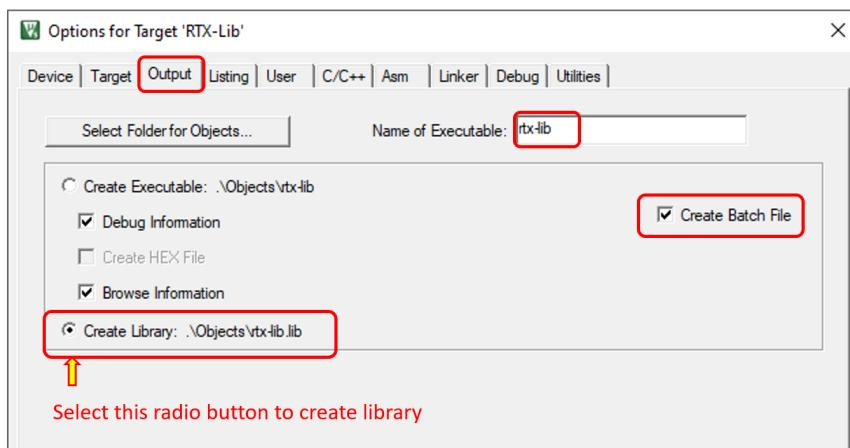

Figure 8.43: Keil IDE: Target Options Output Tab Library Creation Configuration
3. The most important step is to configure the output to be a library as shown in Figure 8.43